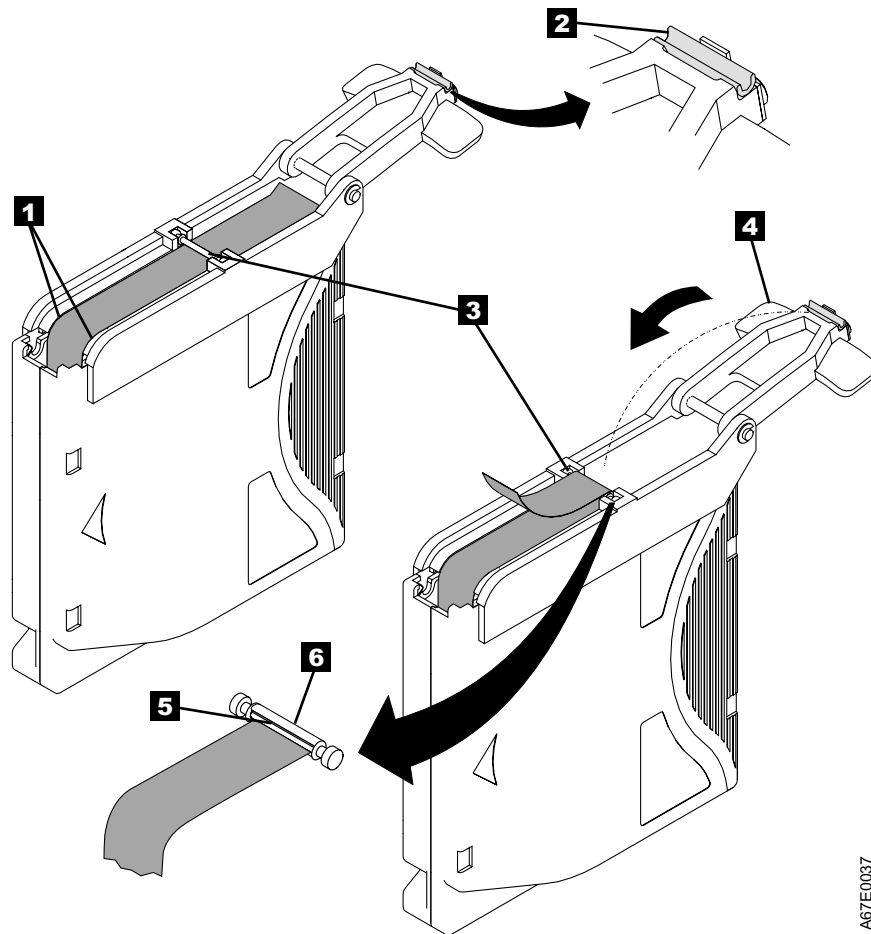

Figure 21. Attaching the leader pin to the tape
7. Position the tape in the alignment groove of the leader pin attach tool (see **1** in Figure 21 on page 47).